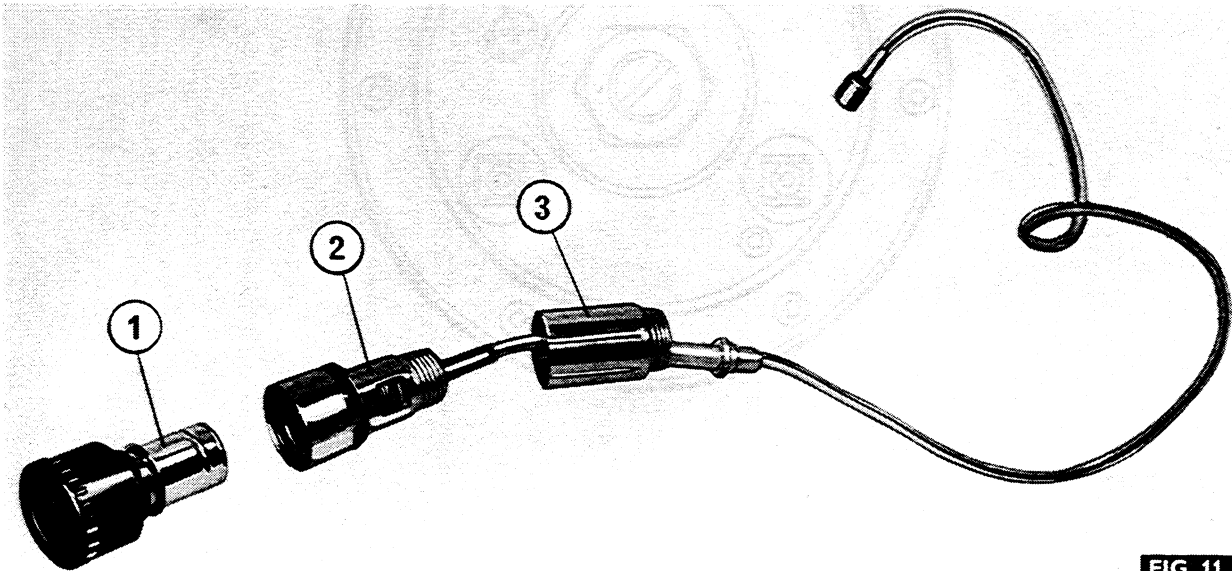

FIG. 11
3. Fig. 11. Pull the lighter unit (1) from the centre piece (2).
4. Unscrew the outer cover (3) from the lighter (2).
5. Place the centre of the lighter (2) through the hole in the instrument panel from the top.
6. Screw the outer cover (3) onto the centre piece (2) under the instrument panel